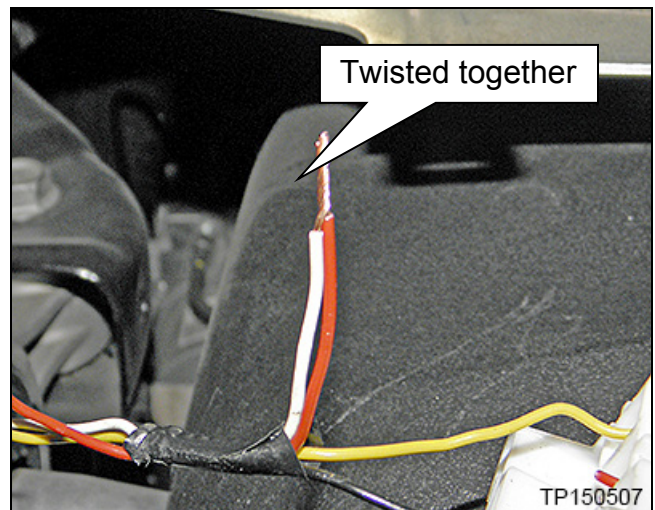

Figure 8
- Twist the red and white wires together (Figure 8).